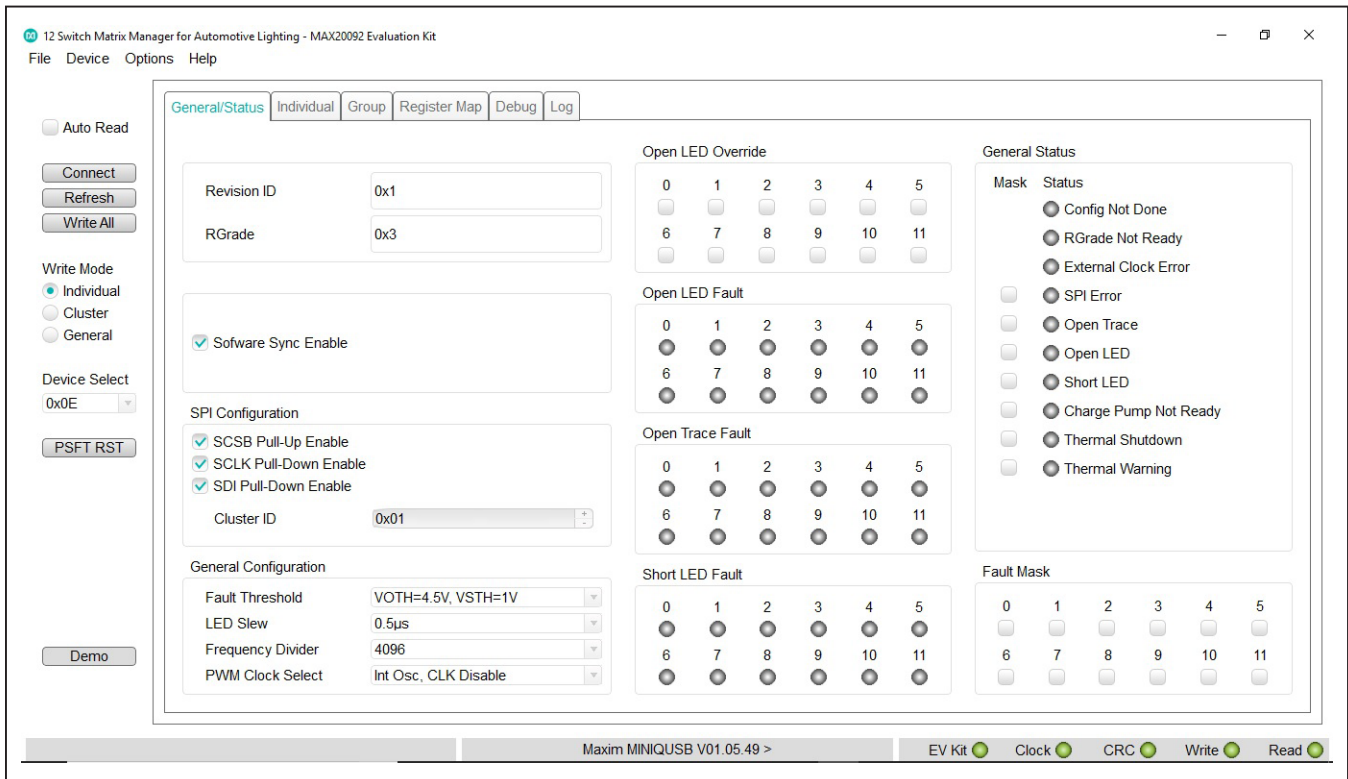

Figure 1. MAX20092 Evaluation Kit Software (GUI)
- Click the Software Sync Enable Button in the GUI to enable the control of LEDs as shown in Figure 1.